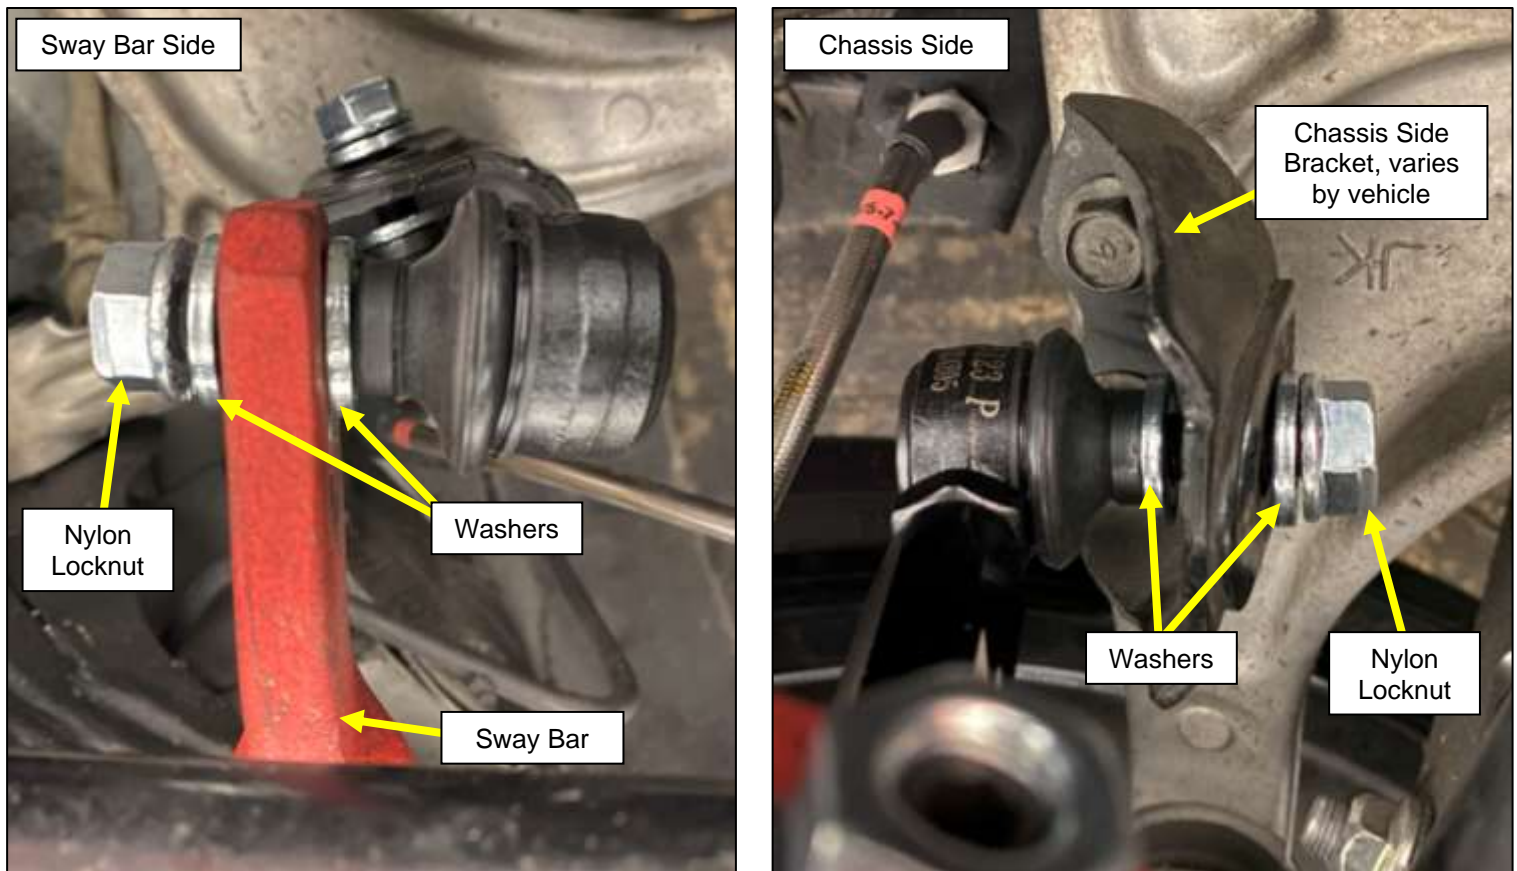

Figure 1
4. Remove the (2) two nuts that secure the OE End Links to the chassis and Rear Sway Bar. Refer to the last page of this Installation Manual for the specific locations relative to your vehicle.
6. Locate the Z1 End Links. Loosen the (2) two Jam Nuts on the End Link and adjust the length of the End Link to match the length of the OE End Link.
7. Install (1) one Washer onto each end of the End Link and position them into the vehicle, (1) one end through the Sway Bar, and (1) one end into the Chassis Mount. *Figure 1.*
8. Install (1) one Washer and (1) one Nylon Locknut to the ends of the End Links to secure them to the vehicle. *Figure 1.*